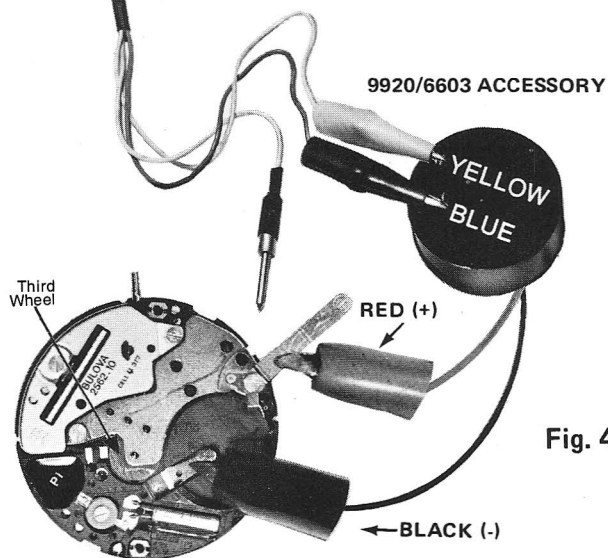

Fig. 4
Step 6. Connect "Black" Accessory Clip to lower contact spring (-) as illustrated in Fig. 4.
shown in fig. 4.